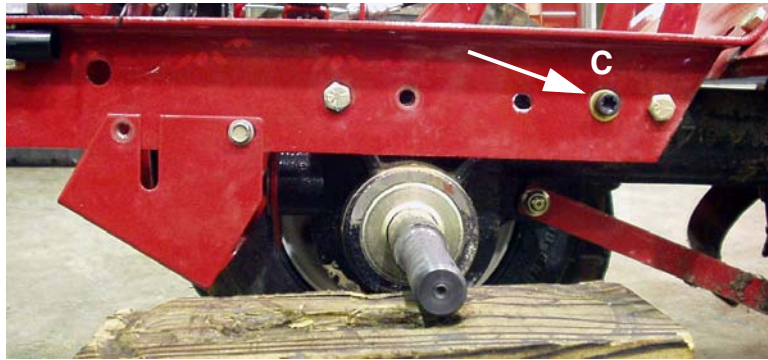

FIGURE 3
8. Place a 736-0264 flat washer onto a 710-1314A Socket Head Cap Screw and install in the hole marked “C” thereby securing the rear transmission mounting boss to the frame. Tighten securely. See Figure 3.